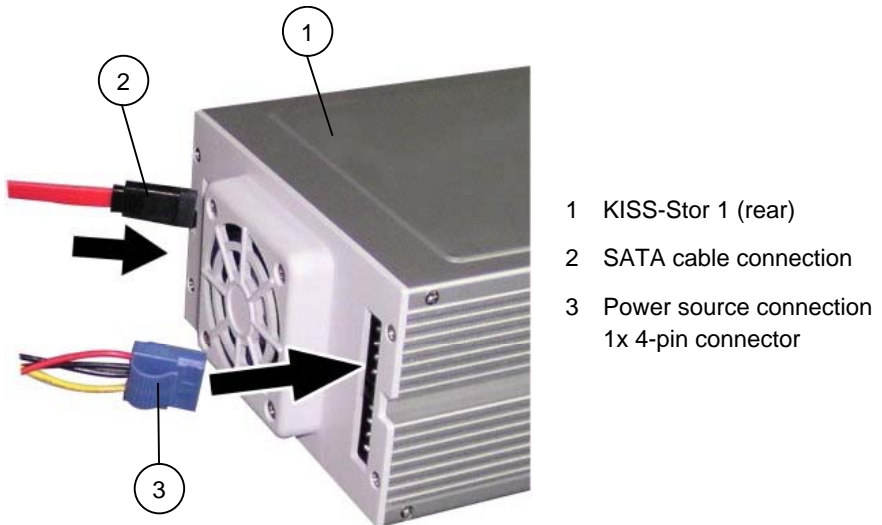

Fig. 14: KISS-Stor 1 – Connections between KISS-Stor 1 and computer system
3. Connect the other end of the SATA cable to the SATA port of the KISS-Stor 1 RAID subsystem (refer to *fig. 14, pos. 2*).
1. Connect the power source connector/s to the corresponding connector/s located on the rear side of the RAID subsystem (refer to *fig. 14, pos. 3*).